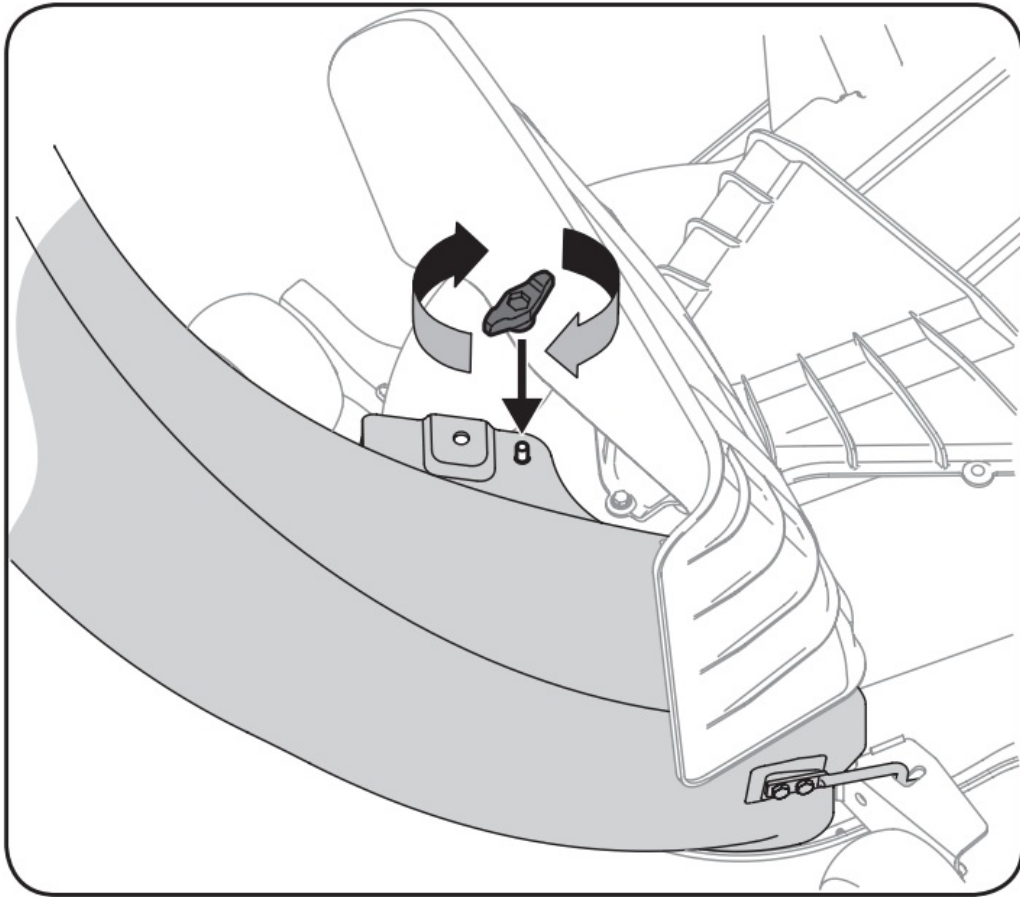

Figure 4-23
6. Secure the discharge chute elbow to the cutting deck using a (720-04122) wing knob included in hardware pack 68900341. Refer to Figure 4-23.